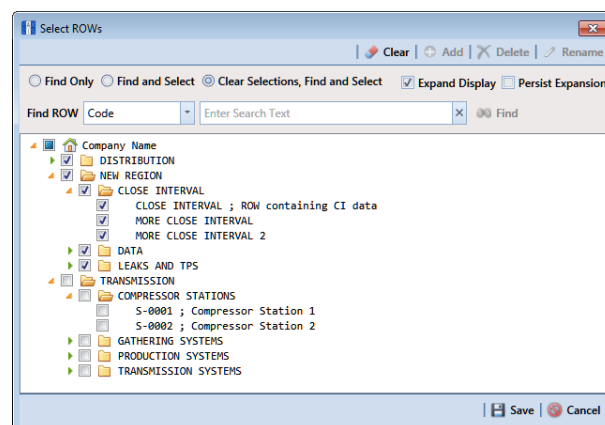

Figure 7-151. Select ROWs
- 1 Click the **Select ROWs** button  to open the *Select ROWs* window (Figure 7-151). Select the pipeline segment(s) with the rectifier you want to work with, then click  **Save** to close the window.